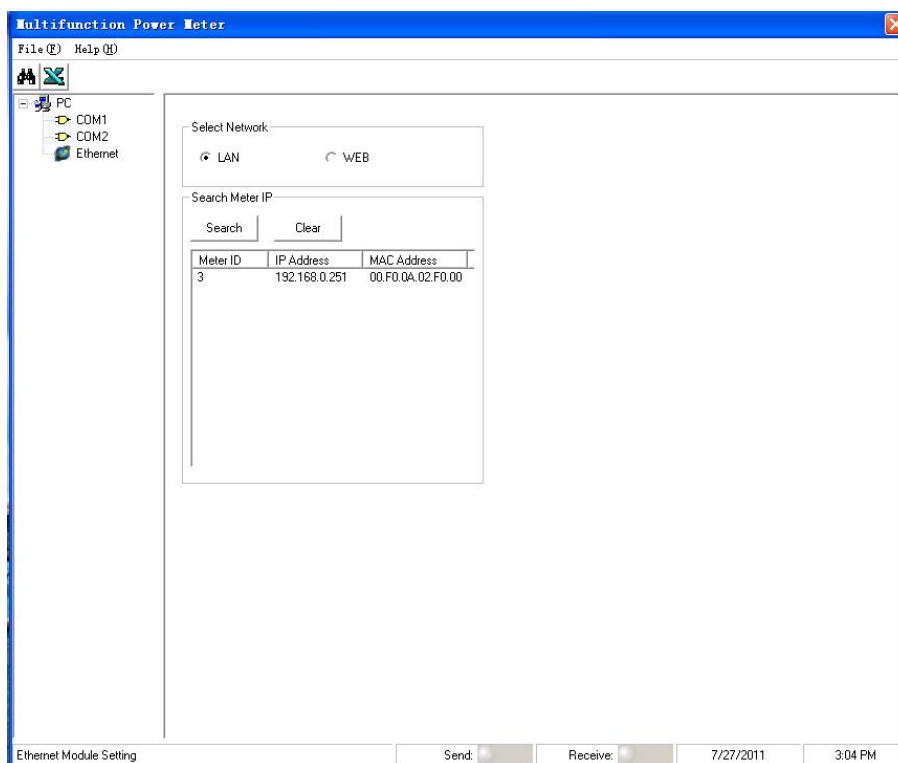

Fig. 190
(1) As shown in Fig. 190, search the port and then choose module with 192.168.0.250.